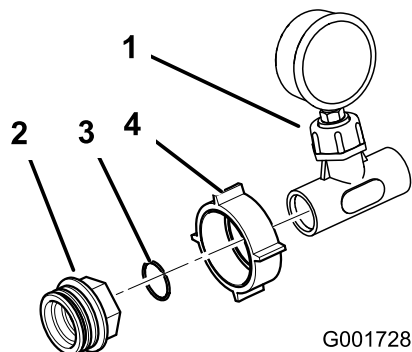

Figure 13
12. Install the large plastic nut over the pressure gauge and tee assembly. Install a plastic O-ring and adapter to the assembly as shown in Figure 13.